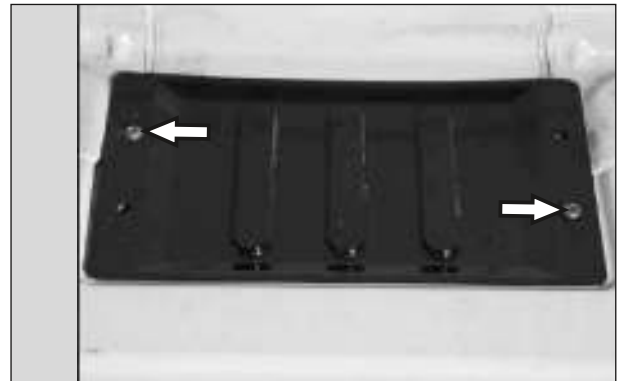

Fig. 2.65
- Loosen and remove 2nos. CRPH screws M6X16 from the Lid battery box. Take out the lid. (Fig. 2.65)